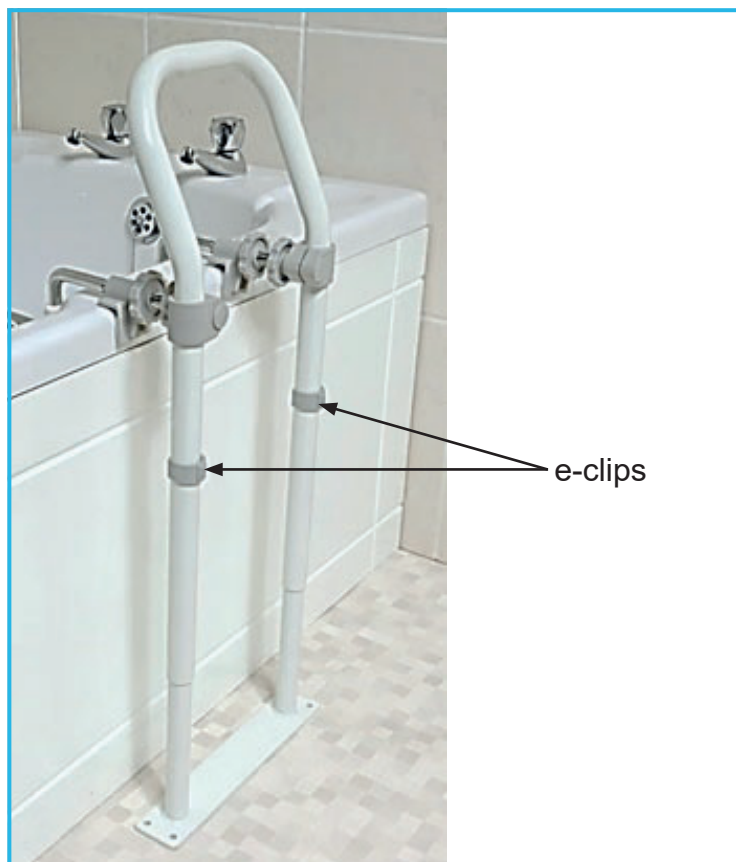

Figure 1: Swedish Bath Rail in Use
1. Refer to Figure 1. Remove 'e-clips' and slide the rail to a height which is comfortable for the user when getting into and out of the bath.
**Note:** The handle should angle over the bath, see Figure 1.